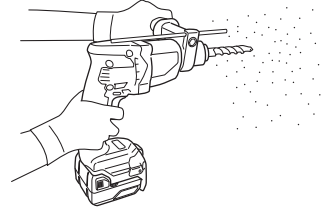

Fig. 14
- (1) Mount the drill bit.
- (2) Pull the switch trigger after applying the drill bit tip to the drilling position. (Fig. 14)
- (3) Pushing the rotary hammer forcibly is not necessary at all. Pushing slightly so that drill dust comes out gradually is just sufficient.
**When the drill bit touches construction iron bar, the bit will stop immediately and the rotary hammer will react to revolve. Therefore please grip the side handle and handle tightly as shown in Fig. 14.**